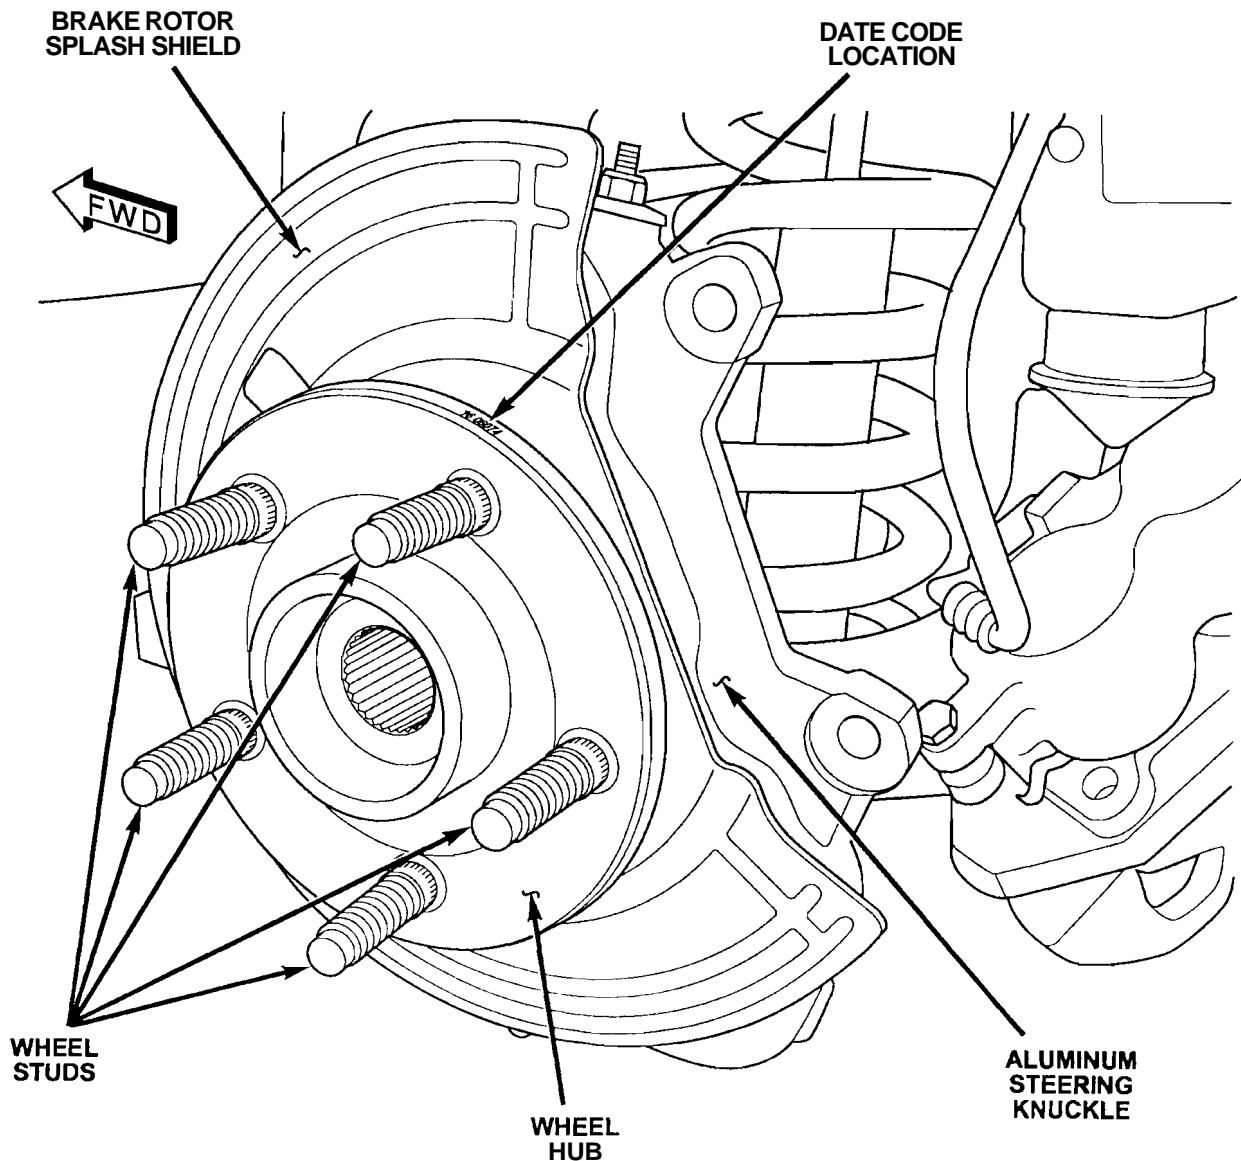

Figure 2 – Left Side Shown
5. Inspect the 5 digit date code on both front wheel hubs. The date code is located on the outside edge of the wheel hub flange (Figure 2).